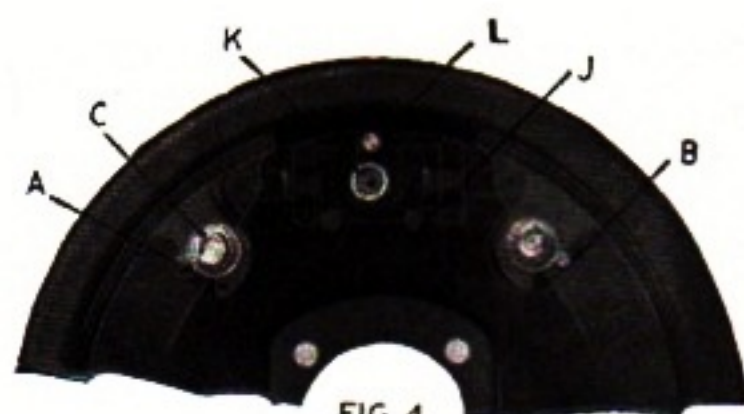

FIG. 4
First, check the lubrication in the rear axle housing by removing oil level plug (I, Figure 4) from housing cover. The lubricant should be kept to this level at all times.
(1) Take hold of washer (A-Figure 4) which is locked by a tongue fitting into the keyway in pinion shaft. If this washer shows the slightest
(Figure 4)
boots to protect the cylinder. At the uppermost position, and between the pistons, is a bleeder valve, required for expelling the air when filling the system. (See L—Figure 4).
ADJUSTMENTS: When brake lining becomes extensively worn, manifested by foot pedal going almost to the floor board, and thereby reducing braking effect, necessary adjustments can readily be made to bring brake shoes into closer relation with the drum. (See Fig 4).
Removal of the two cap screws (J) holding cylinder to brake dust shield allows cylinder to be withdrawn with hose. (See Fig. 4).
To remove Rear cylinder, follow above instructions except that the copper tubing must be disconnected at the cylinder inlet (K) (Fig. 4).
Remove cap screw (L) (Fig. 4) from end of bleeder connection and screw in bleeder drain provided for this purpose, which is a fitting with rubber tube attached. Allow tube to hang in clean container, such as a pint mason jar. Unscrew bleeder connection three-quarters of a turn and depress foot pedal slowly by hand, allowing return spring to return pedal to "off" position. This gives a pumping action which forces fluid through